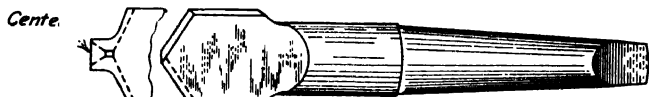

Fig. 8-17. Homemade flat drill.
*The Flat Drill.* Occasionally when it is required to drill a hole of a size for which a twist drill is not at hand, it is convenient to know that a flat drill (Fig. 8-17) will do good work. It may be made easily
end of a flat piece of stock, say  $\frac{1}{8}$  by 1 in., to the shape of the cutting edges of a flat drill (Fig. 8-17).